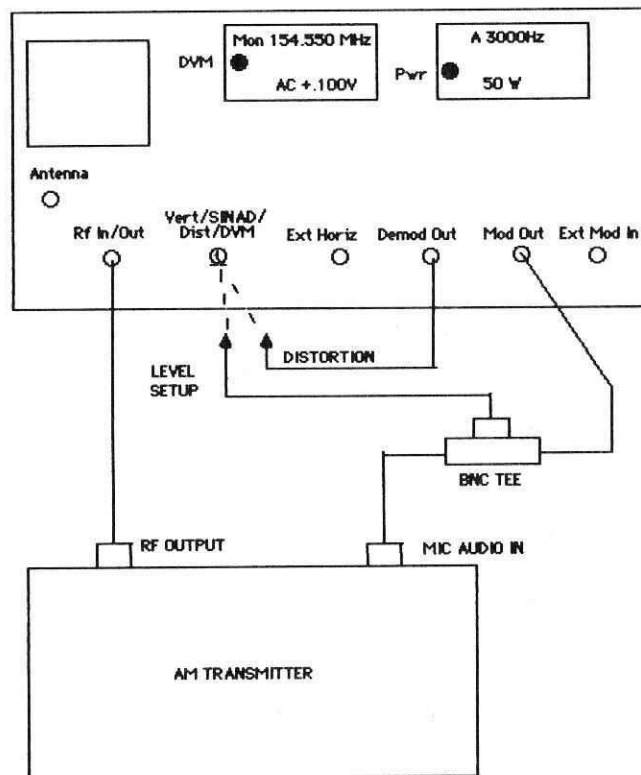

FIGURE 5.10—AM MODULATION TEST SETUP
1. Connect the service monitor's "RF In/Out" to the output connector of the transmitter under test, as shown in figure 5.10. Set "Function" to "Pwr Mon", "AM". Observe caution in basic transmitter tests section.